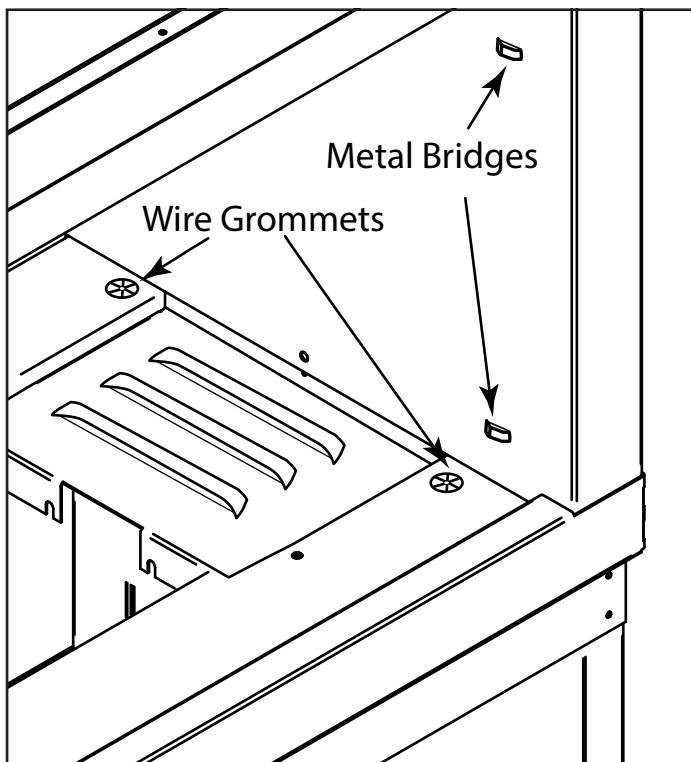

Fig. 16 Locating wire grommets
Step 3: Locate the wire grommets inside the firebox. See Fig. 16. Directly above them will be a series of metal bridges to install the glass panel clips. Remove the glass panel clips from the glass panel packaging. **CAUTION:** The metal clips may have sharp edges, handle with care.